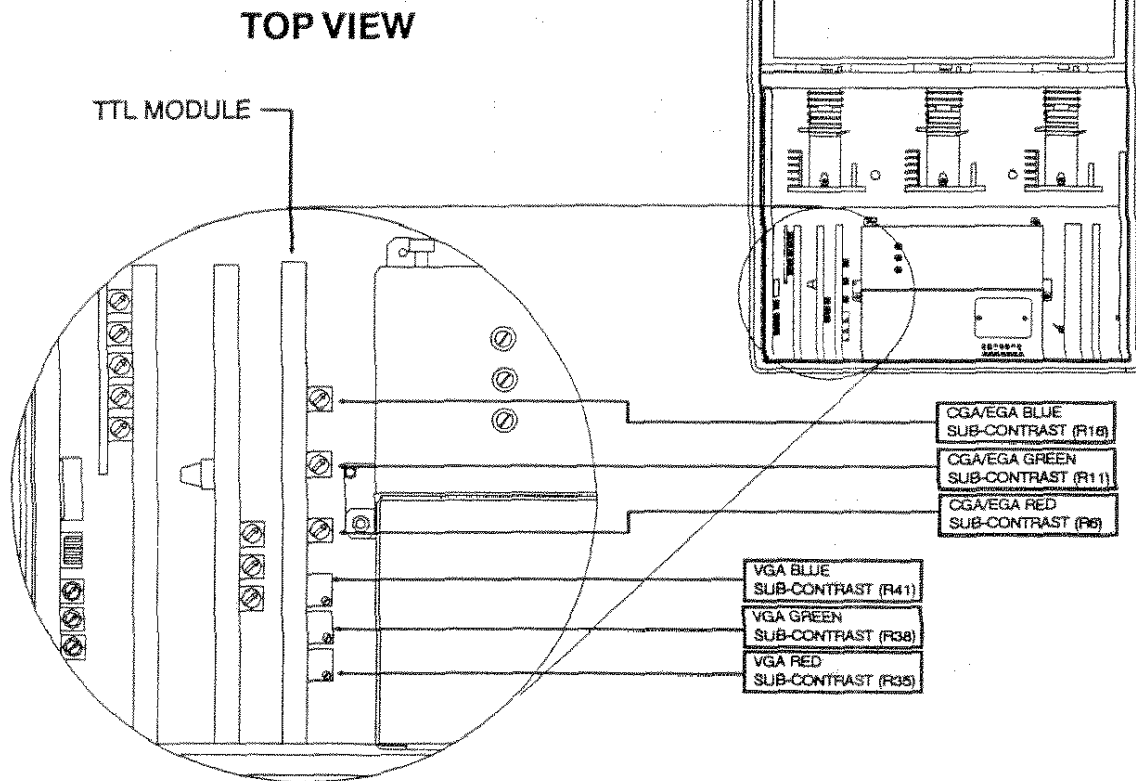

FIGURE 3-11. CGA/EGA AND VGA CONTRAST CONTROLS.
- STEP 3. On the TTL module, adjust Red sub-contrast (R6), Green sub-contrast (R11) and/or Blue sub-contrast (R16) to obtain an optimum gray scale. Refer to Figure 3-11
- NOTE: The CGA/EGA adjustments must be made first. These adjustments will affect the setting of the VGA controls. Refer to Figure 3-11